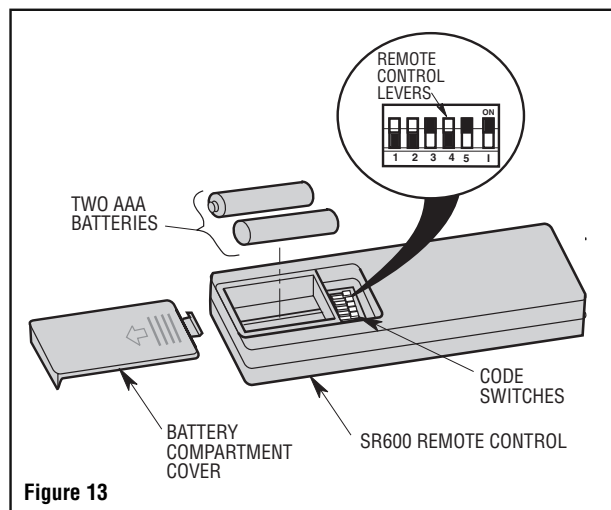

Figure 13
1. Remove the battery cover by pressing firmly below the arrow and sliding the cover off the control (Figure 13).